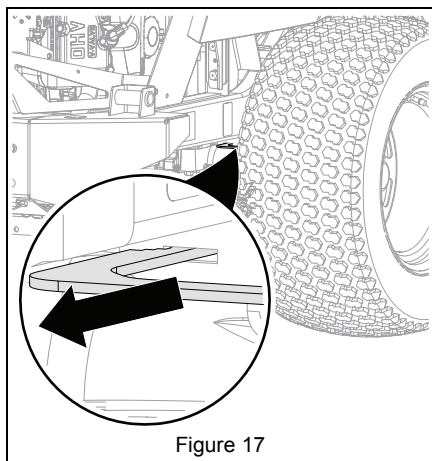

Figure 17
2. Pull both transaxle bypass levers out into bypass position. See Figure 17.